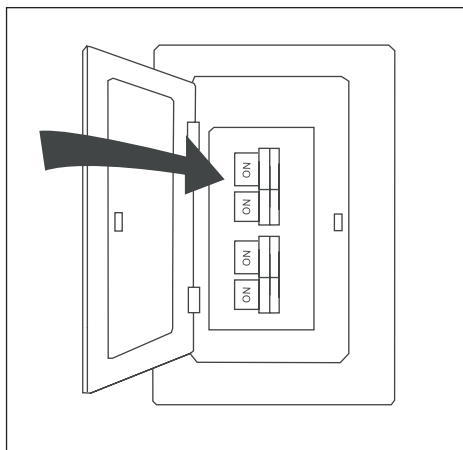

Figure 5.7
7. Turn on power to fan at breaker box and the wall switch. Assembly is complete (Figure 5.7).